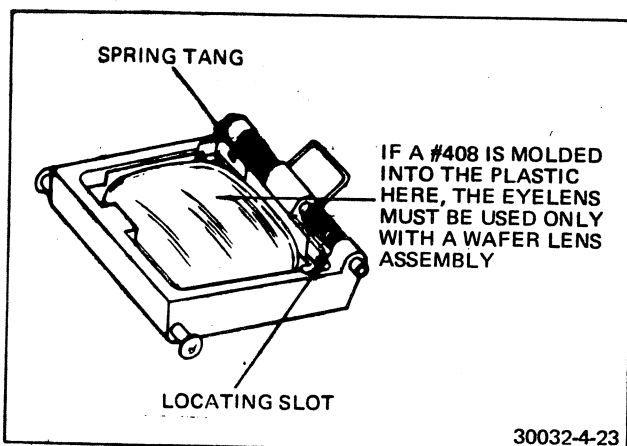

FIGURE 4-23 EYELENS TORSION SPRING
- b. Locate the two spring ends in the housing as shown in Figure 4-23.